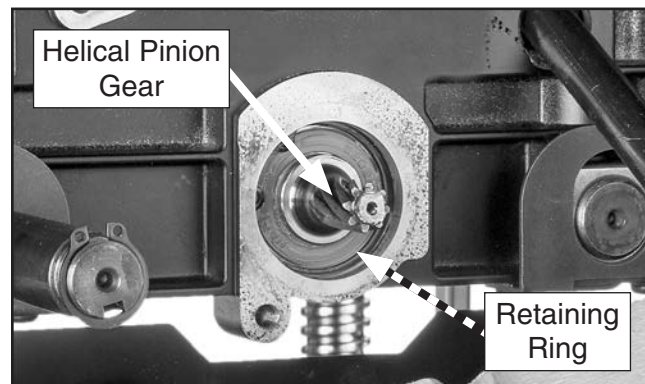

Figure 12. Helical pinion gear and retaining ring.
28. Remove helical pinion gear from cutterhead (see **Figure 12**).
29. Remove retaining ring (see **Figure 12**).